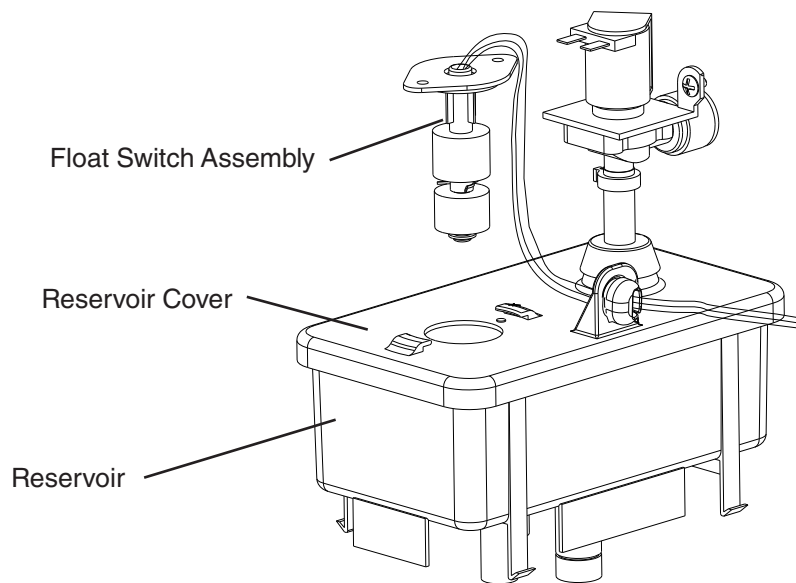

Fig. 11
- 2) Remove the float switch assembly from the reservoir cover. See Fig. 11.